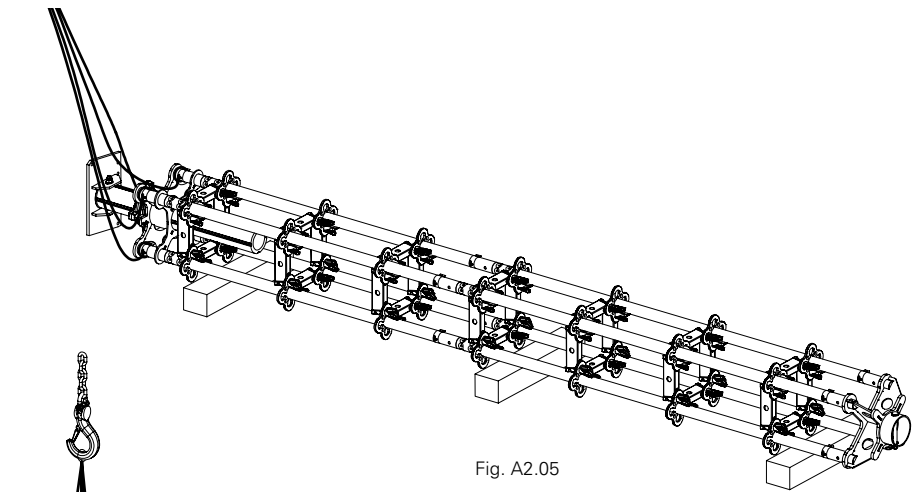

Fig. A2.05
1. Enclose prop e.g. with textile straps underneath the head spindle. (Fig. A2.05)